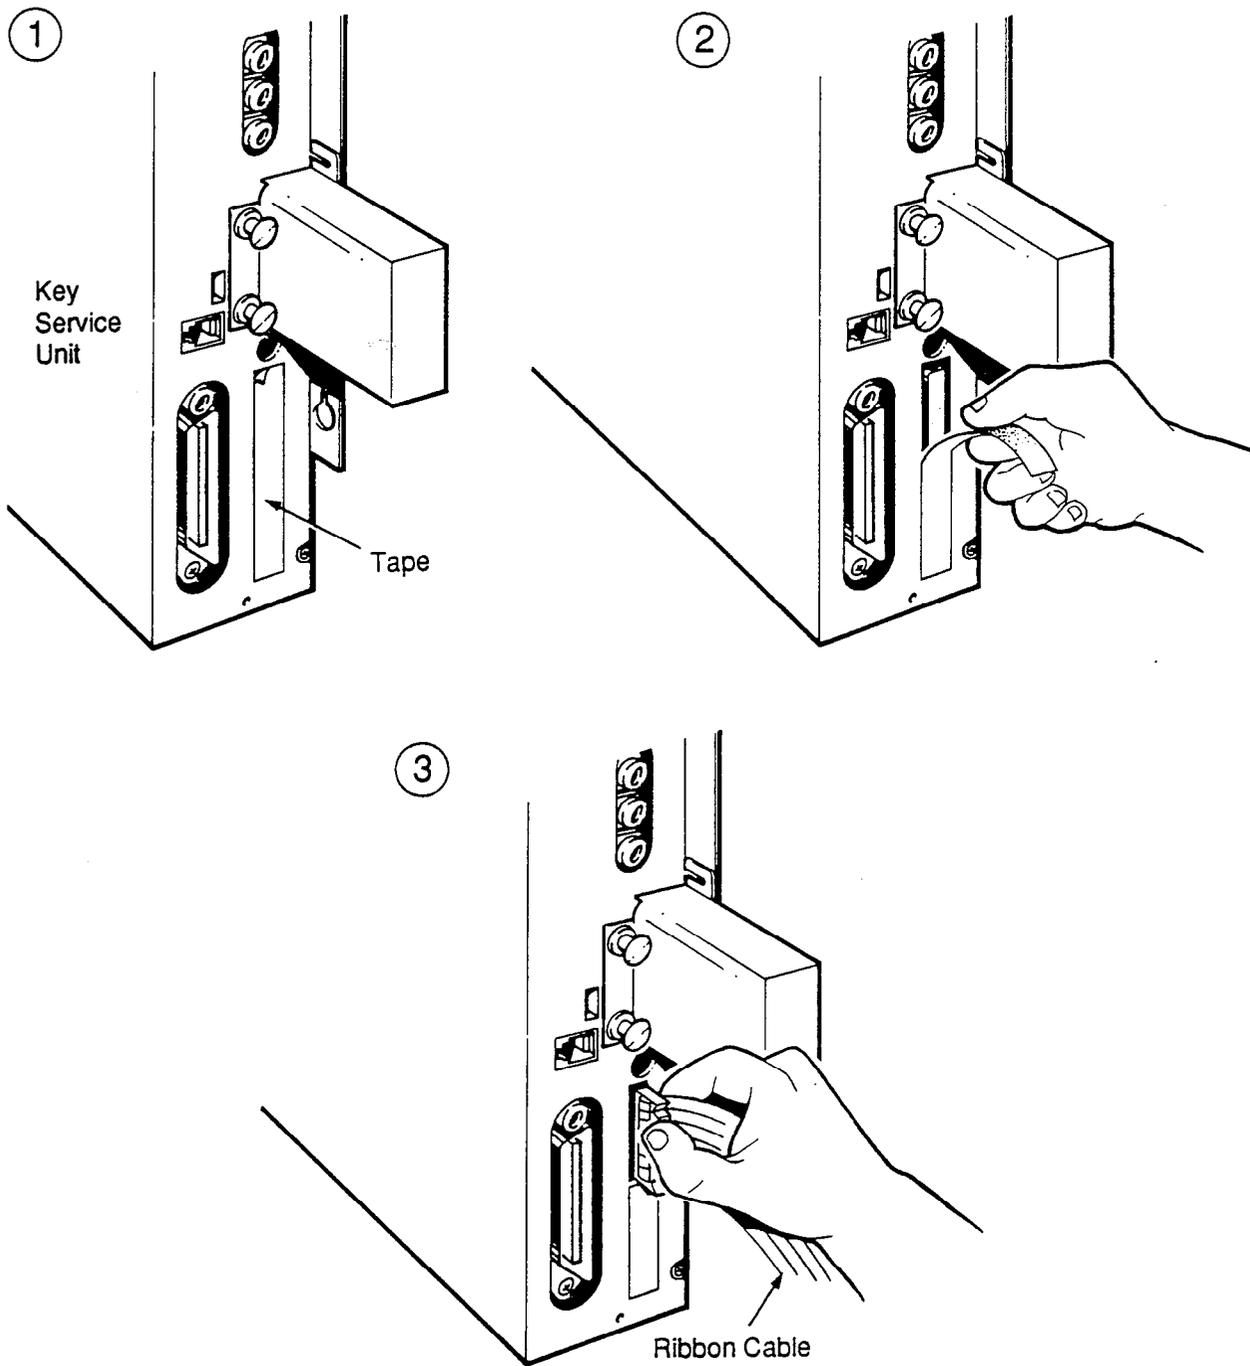

Figure 3-2 Exposing the Port for the Ribbon Cable
- Step 6. There's a short strip of black tape along the lower right-hand side of the KSU that covers two ports. Starting at the top of the tape, peel it back to expose the top port (refer to Figure 3-2). Cut off the excess tape.